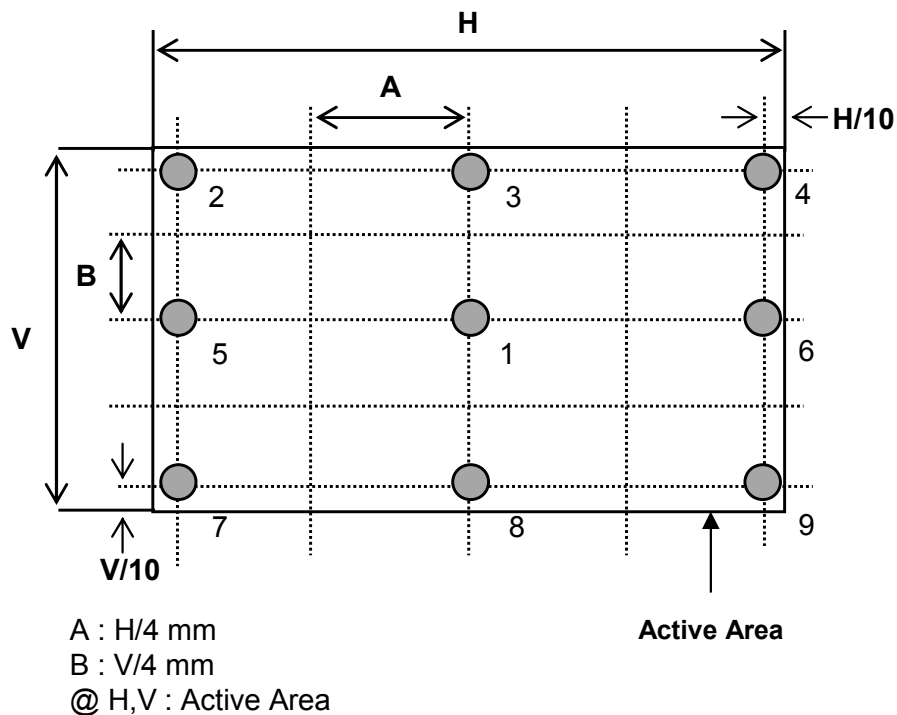

FIG. 2 Measure Point for Luminance
2. Surface luminance is luminance value at No.1 point across the LCD surface 50cm from the surface with all pixels displaying white. For more information see FIG 2.